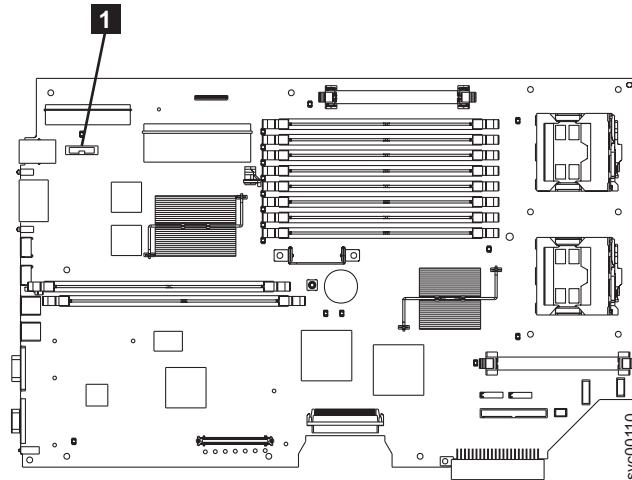

Figure 139. Location of the CMOS battery on the SAN Volume Controller 2145-8F2 or the SAN Volume Controller 2145-8F4
5. Locate the battery **1** on the system board. Figure 139 on page 157 shows the location of the battery.